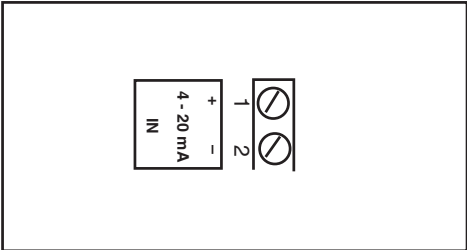

Figure 8. Connections
2. Supply air should meet IEC 770 or ISA 7.0.01 requirements. A coalescing filter should be installed in front of the supply air connection (Figure 8). Now connect the air supply to the filter, which is connected to the **PMV D20** positioner.
5. Connect the outlet connector (Figure 8) of the positioner with tubing, independent of the action (direct or reverse).
NOTE: *The input loop current signal to the **PMVD20** should be in shielded cable. Shields must be tied to a ground at only one end of the cable to provide a place for environmental electrical noise to be removed from the cable. In general, shield wire should be connected at the source. (Figure 8).*